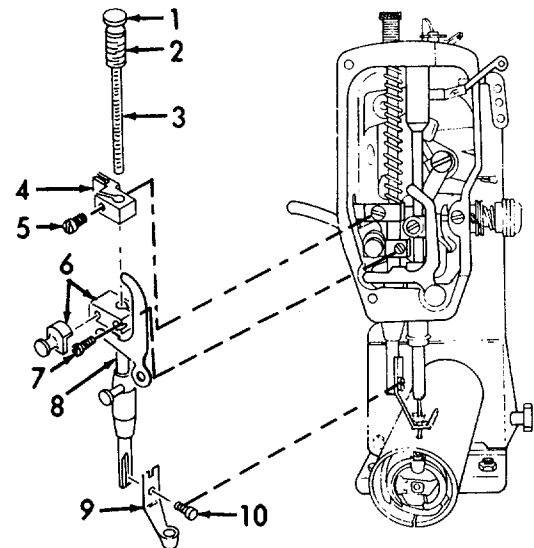

Figure 6-107. Presser Bar, Removal.
a. Removal (Refer to Figures 6-107 and 6-108).
- (1) Refer to Figure 6-107. Remove presser bar tension thumbscrew (1), tension spring (2), and spring rod (3).
- (2) Loosen clamp screw (5) on presser bar guide assembly (4).
- (3) Loosen clamp screw (7) on presser lifter block assembly (6).
- (4) Pull down on presser bar (8) to remove.
- (5) Remove presser foot (9) by removing screw (10).